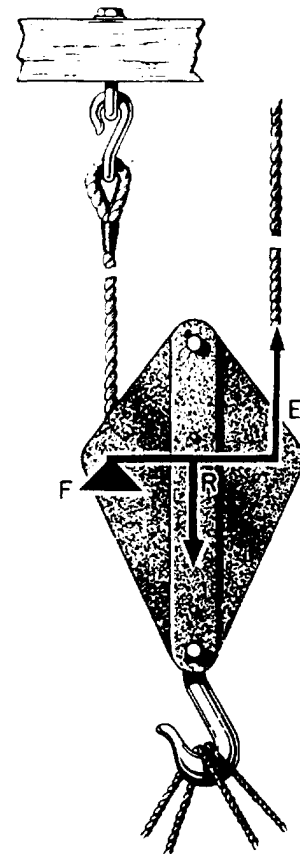

Figure 2-5.-It's 2 to 1.
The single movable block in this setup is a second-class lever. See figure 2-5. Your effort (E) acts upward upon the arm (EF), which is the diameter of the sheave. The resistance (R) acts downward on the arm (FR), which is the radius of the sheave. Since the diameter is twice the radius, the mechanical advantage is 2.